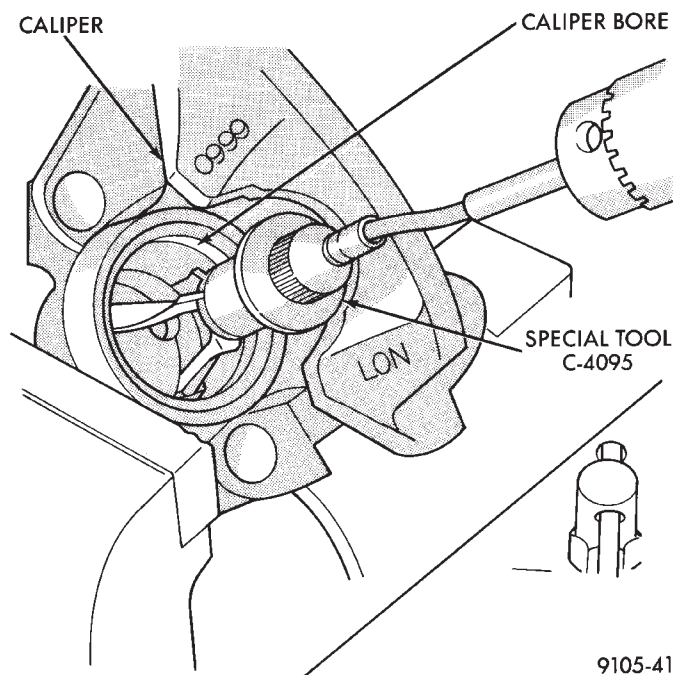

Fig. 173 Honing Brake Caliper Piston Bore
(9) Clean all parts using alcohol or a suitable solvent and wipe dry **using only a lint free cloth**. No lint residue can remain in caliper bore. Clean out all drilled passages and bores. **Whenever a caliper has been disassembled, a new boot and seal must be installed at assembly.**
(10) Inspect the piston bore for scoring or pitting. Bores that show light scratches or corrosion can usually be cleared of the light scratches or corrosion using crocus cloth. Bores that have deep scratches or scoring should be honed. Use Caliper Hone, Special Tool C-4095, or equivalent providing the diameter of the bore is not increased more than 0.0254 mm (0.001 inch) (Fig. 173).